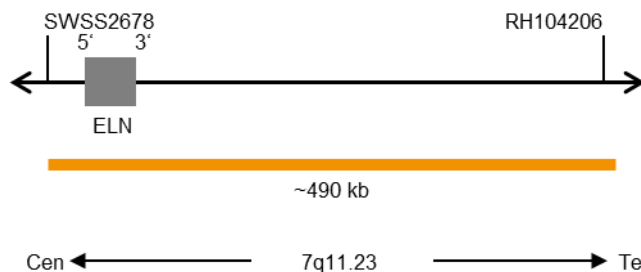

Fig. 1: SPEC ELN Probe map (not to scale)
- ZyOrange (excitation 547 nm/emission 572 nm) labeled polynucleotides (~4.5 ng/μl), which target sequences mapping in 7q11.23* (chr7:73,408,390-73,899,599) harboring the ELN gene region (see Fig. 1).